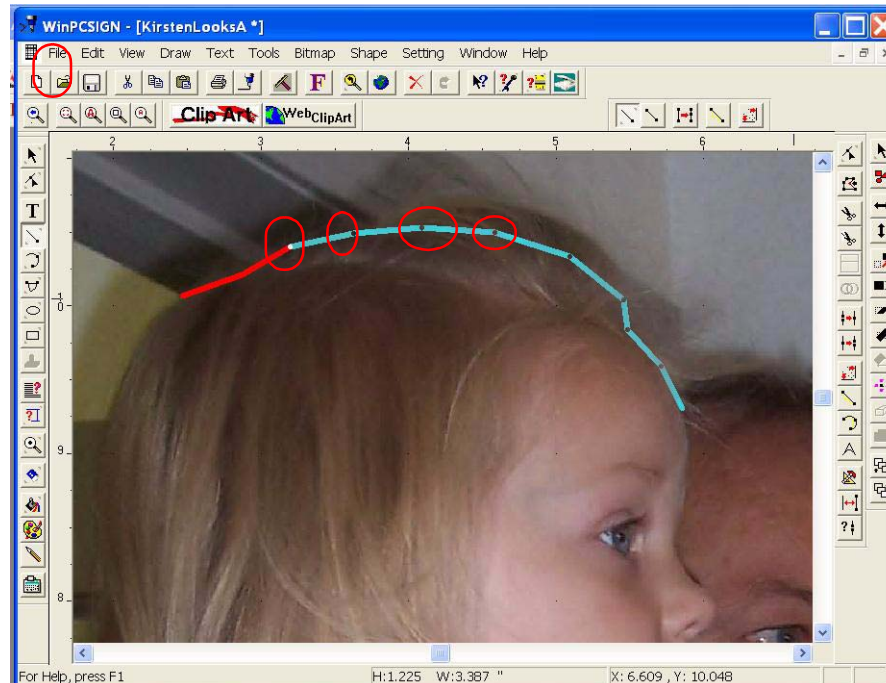

Figure 128
- 4 Continue tracing around the picture by clicking on a spot some distance away from your first line. As you click along the outline of the picture, a line fills in between the points. See figure 128.